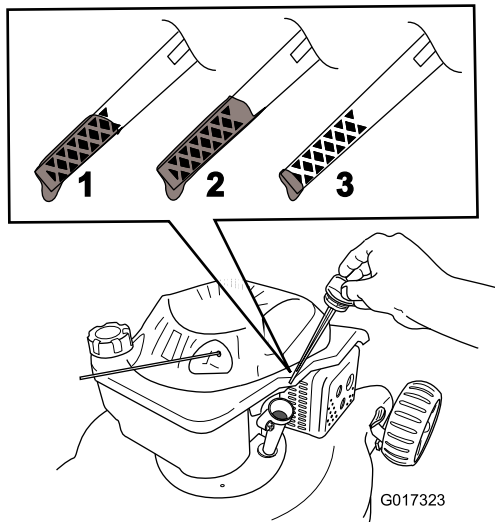

Figure 36
4. Remove the dipstick (Figure 36).
11. Read the oil level on the dipstick (Figure 36).